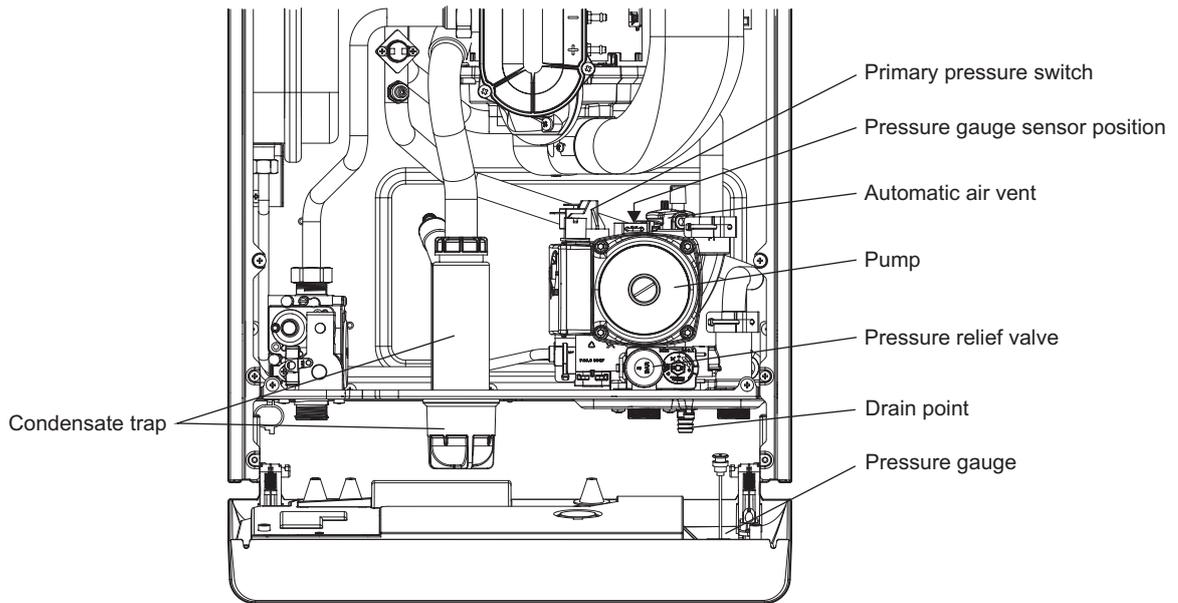

Fig. 34
7.19 PRESSURE GAUGE - Fig. 34
7.21 AUTOMATIC AIR VENT - Fig. 34
7.22 PUMP - Refer to Fig. 34
2. Connect the plug to the new head. Ensure the pump is set to maximum (3) and re-assemble in reverse order.
7.23 PRIMARY PRESSURE SWITCH - Fig. 34
7.24 PRESSURE RELIEF VALVE - Fig. 34